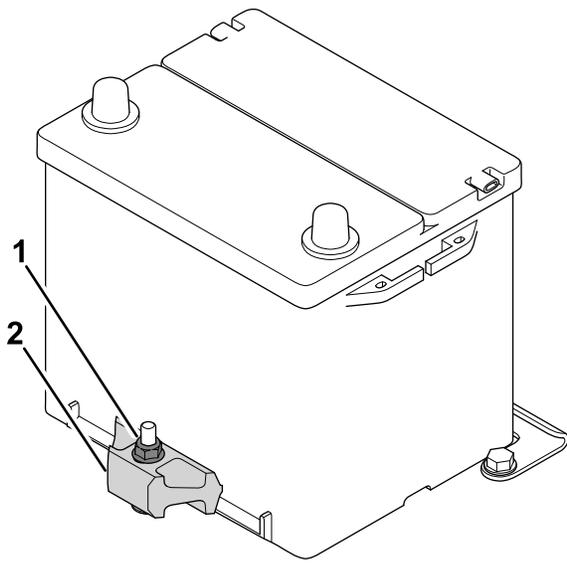

Figure 43
2. Loosen the locknut securing the battery retainer and remove the battery from the tray (Figure 43).
1. Place the battery on the battery tray and secure the battery to the retainer by tightening the locknut (Figure 43).